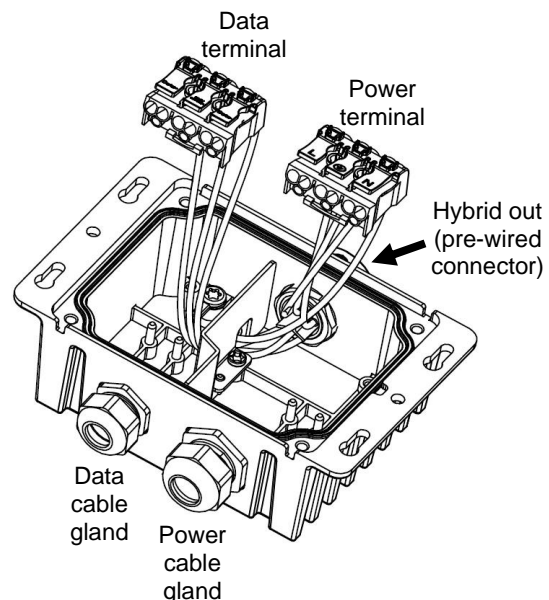

Figure 4. Junction box connections
3. See Figure 4. Lift the terminal blocks off their pins in the junction box to give easier access.